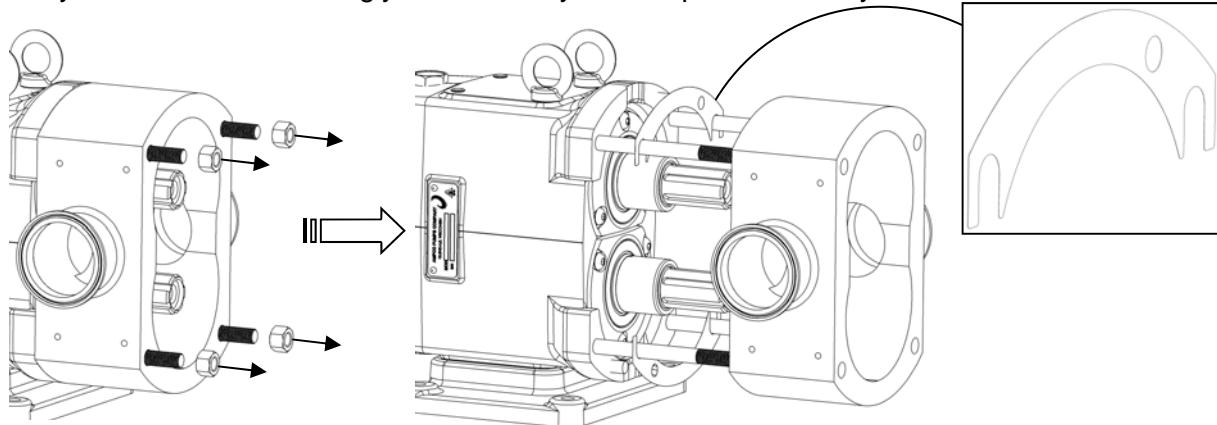

Figure 28: Removal of Pump Body
4) Remove the four body hold down nuts using the appropriate wrench. Pull the pump body off by sliding it along the studs (Figure 28). If the body is stuck, use a soft mallet to tap the body. Inspect the body for excessive wear, clean, and continue on to seal maintenance. It is important to keep track of the top and bottom shims and which shafts they are associated with. They are installed accordingly at the factory for that particular body.